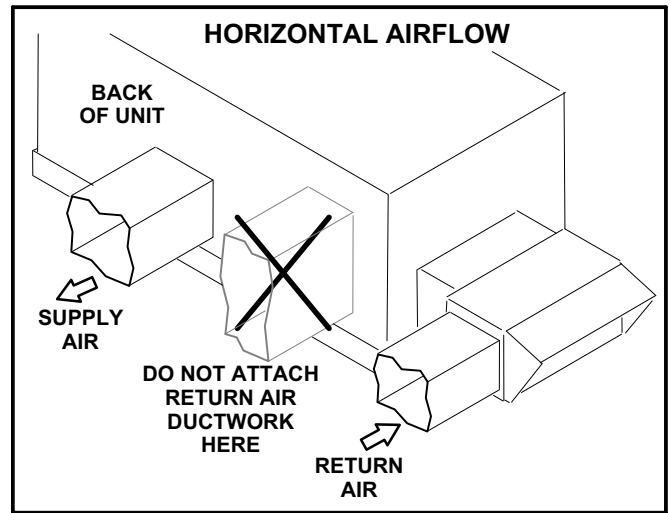

FIGURE 26
- 3- Make sure the horizontal return air cover on the back side of the unit remains in place. The opening is used when an economizer is not installed. See figure 26.